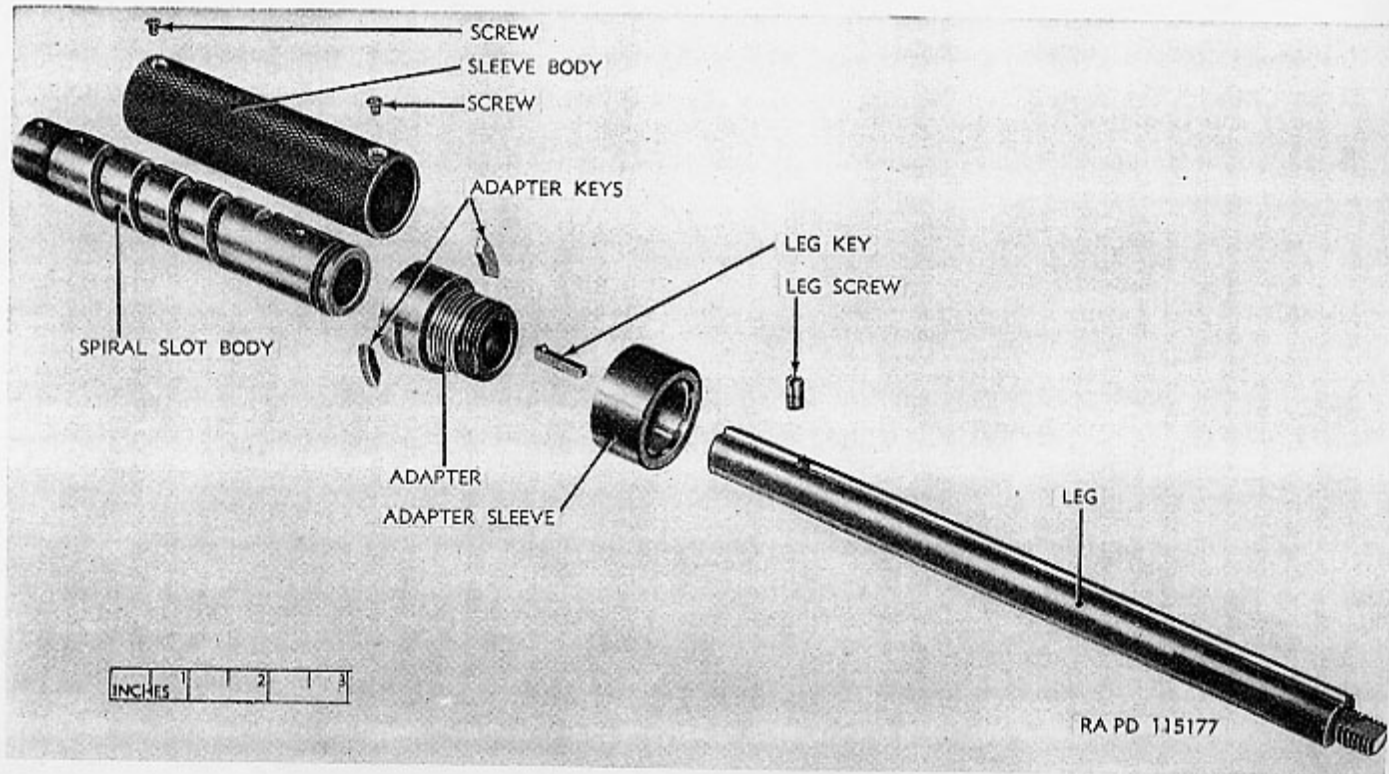

Figure 33. Monopod parts exploded.
- (d) The monopod leg key is held in the adapter by the leg key pin. It need not be removed unless it shows corrosion. In that case, drive out the pin from its hole in the adapter and remove the key (with the pin in it, fig. 33).
- (3) For M20 launchers insert the upper end of the assembled leg and body into the bracket of the front clamp. For M20B1 launchers make sure that the aluminum tube of the contact lead wire assembly is placed in its notch on the barrel in the monopod support and insert the upper end of the assembled leg and body in the monopod support cast integral with the rear barrel. Place the cap over the upper end of the spiral slot body. Face it around so that the two mounting screw holes aline with the tapped holes in the body. Install the mounting screws. The mounting screws for the cap are slightly longer than the mounting screws for the monopod sleeve body. Tighten the screws and stake them.
- (4) Slide the knurled monopod sleeve body over the spiral slot body. Face it around to aline the mounting screw holes of the sleeve body with the tapped holes of the spiral slot body and install the two mounting screws. Tighten the screws and stake them.
- (5) If the leg key was removed from the adapter, insert the key (with the leg key pin in it, fig. 33) in the keyway of the adapter, fitting the leg key pin in its hole in the adapter.
- (6) Slide the adapter over the end of the monopod leg and the spiral slot body engaging the leg key in the keyway on the leg. Adjust the position of the adapter so that the key slots of the adapter aline with the keyway encircling the end of the spiral slot body. Insert the two adapter keys and slide the adapter sleeve over the adapter.
- (7) Slide the stock over the leg and adapter. Slip the spring washer over the adapter and place it against the stock. The spring washer will be placed in such manner that the inner portion of the washer is raised away from the stock. Engage the adapter nut in the screw thread of the adapter and tighten the nut sufficiently to flatten the spring washer.